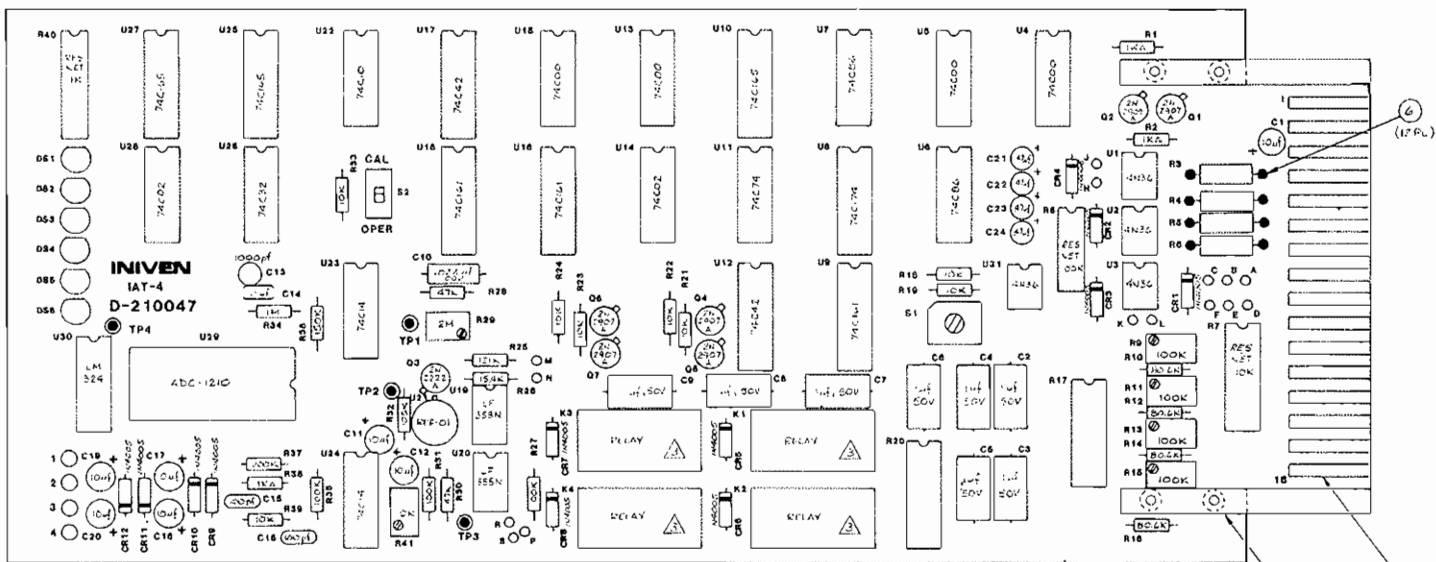

Figure 7. Printed Circuit Board Assembly A1
5.11 **Input Range Modification.** The standard configuration of the IAT is for unipolar inputs with 10V range (0-10V). Bipolar inputs and inputs with a range of 5V can be accommodated by cutting the appropriate etched jumper on printed circuit board A1 (see Figure 7) and installing the appropriate jumper wires, as listed in Table 5-5. For bipolar ranges, set TP4 on printed circuit board A1 (Figure 7) to + 5 volts $\pm .001$ volt with respect to terminal 2 using potentiometer R41. This setting is made at the factory and should not require readjustment in the field. All four analog inputs must be scaled to the same range.
5.12 **60Hz Rejection.** The input normal mode (60 Hz) rejection is directly related to the input time constant. Resistor networks R17 and R20 on printed circuit board A1 (Figure 7) control both parameters as indicated in Table 5-6. The response time should be selected to be not longer than the update interval of Table 5-7, 1300ms is standard. If 1 channel is selected only 470ms results in faster updating. Table 5-7 gives update times for various baud rates and number of analog channels. For update intervals of less than 650 milliseconds a similar modification should be made to the matching IAR Analog Receiver.
- (1) Loosen captive retaining screw and remove IAT from frame.
- (2) Plug IAT into Extender Module.
- (3) Install Extender Module in space vacated by IAT.
- (4) Set channel select switch on printed circuit board A1 (Figure 7) to the associated number of the channel to be calibrated minus 1. Position 0-3 of S1 corresponds to analog channels 1-4 respectively.
- (5) Set CAL/OPER switch S2 to CAL.
- (6) Connect (+) terminal of analog input channel being calibrated to TP2 and (-) side to the circuit common.
- (7) Adjust the associated input potentiometer (R9/CH1, R11/CH2, R13/CH3, and R15/CH4) counter clockwise until LED DS1 extinguishes.
- (8) Slowly rotate the associated potentiometer until LED 1 illuminates indicating 100% of full scale. Do this over a several second time period. Be sure not to increase the pot rotation once the 100% DS1 LED is illuminated or error will be introduced. For certainty, hunt back and forth with the pot so that DS1 is just on, a flickering is acceptable if it exceeds 50% duty. NOTE: It takes the system several seconds to stabilize after any large pot rotation, and less time for smaller rotations.
- (4) Ground Frequency Counter to terminal 2 of connector on printed circuit board A1 (see Figure 7) and connect test probe to TP1.
- (5) Frequency Counter should indicate a frequency of one-half (1/2) the baud rate, if not, proceed to step 6.
- (6) Rotate adjustment screw on potentiometer R29 to obtain desired frequency indication on the Frequency Counter.
- (7) Disconnect Frequency Counter from IAT.
- (8) Remove Extender Module from frame and unplug IAT from extender Module.
- (9) Install IAT in frame and secure with captive screw.
| | • PRINTED CIRCUIT BOARD ASSY (See Figure 7 for breakdown) | 1 | 09D1180-01N | INIVEN |
parts for the major components of the IAT. Figures 7 and 8 exhibit the parts for printed circuit board assemblies A1 and A2, respectively.